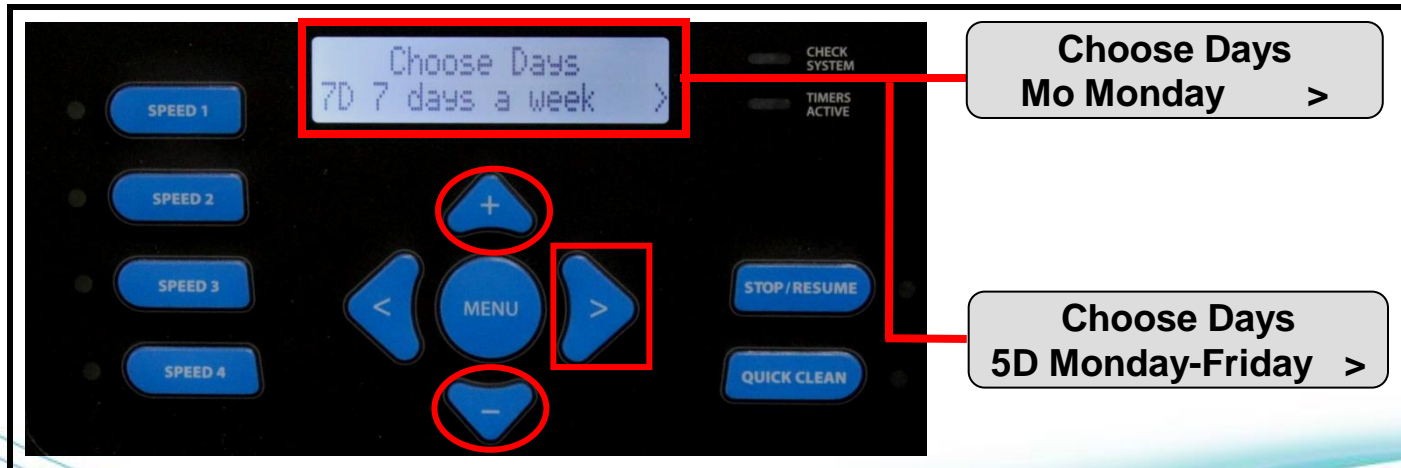

Figure 48
- This screen will allow you to choose the days this timer will be active. You can choose an individual day, 7 day or 5 day by using the **+** & **-** button (fig 48). Press the **>** button to continue to the next timer.